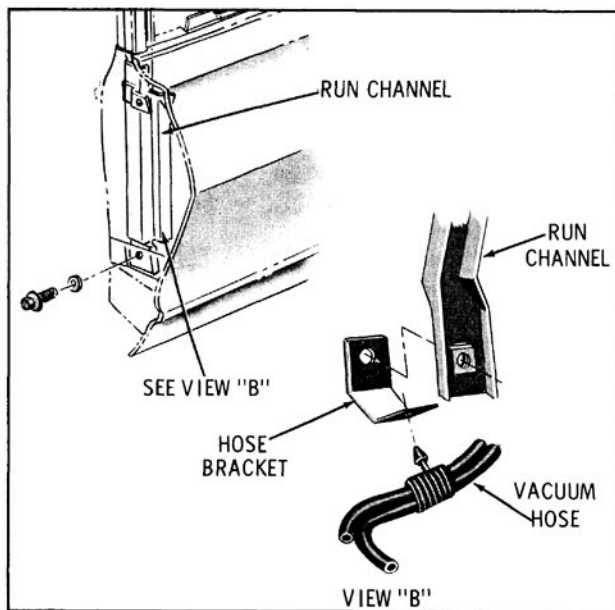

Fig. 16-52 Vacuum Hose Attachment
4. On styles equipped with vacuum door locks, disconnect vacuum hose from lower bracket of run channel. (Fig. 16-52)